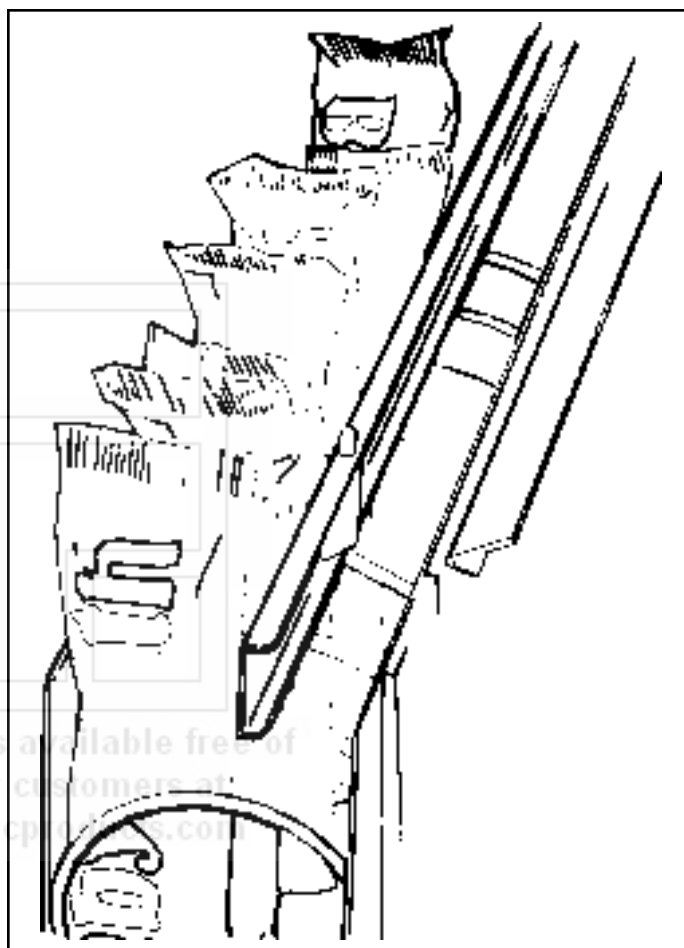

Figure 6. 10 SELECTION SHELF PRODUCT SPACER POSITIONED TO HOLD CANDY UPRIGHT.
8. **PRODUCT SPACERS—10 SELECTION SHELF:** The 10 -selection shelves are equipped with a product spacer (see Figure 6) that can be pivoted from the right side of each product space. These spacers should be pivoted out to hold the product upright, but not tight against the product. Leave about 1/8" clearance between the spacer and the product.